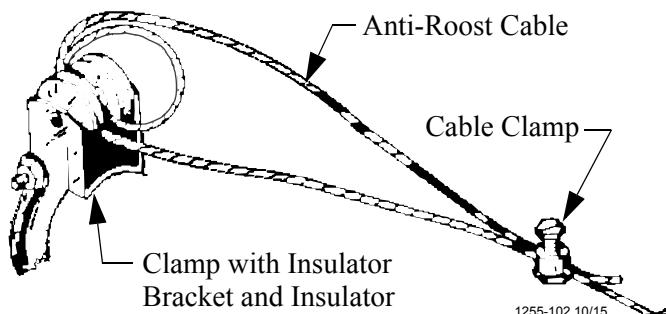

Figure 51. Anti-Roost Cable at the Hopper
2. Start at the hopper end of the line and form a loop around the anti-roost bracket. For best results, make a double loop around the anti-roost insulator in the center groove of the insulator and fasten with a 3/32" cable clamp as shown in Figure 51.